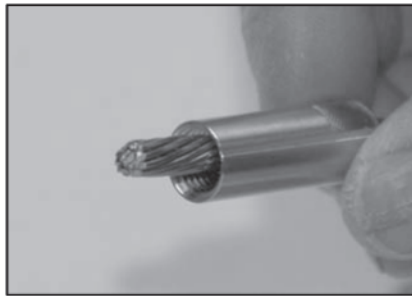

Figure 2
- Step 2 – Install the “Body Section” of the fitting with the largest / threaded opening facing out. See figure 2.